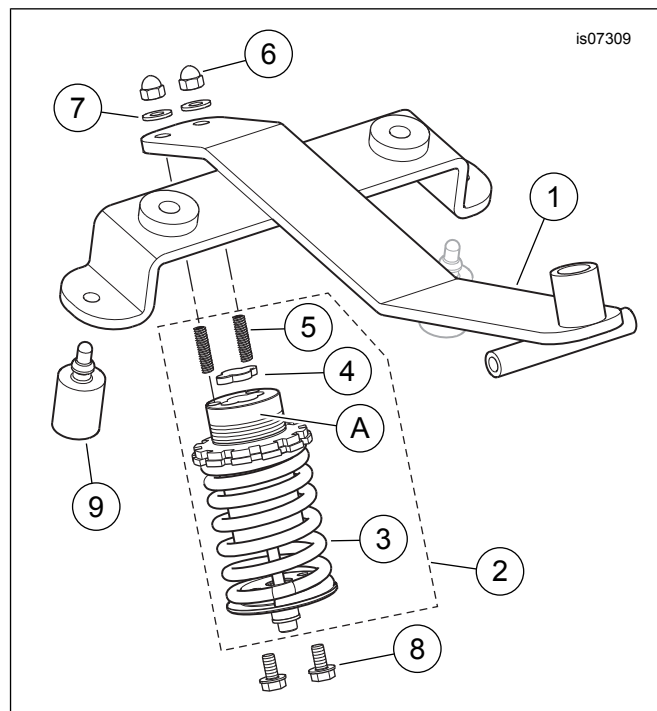

Figure 5. Service Parts, Police Seat Suspension Kit
See Figure 5 and Table 1.
1. See Figure 5. Place the seat spring (2) on the vehicle frame weldment. Align the holes on the bottom plate of the spring with the holes in the frame. Install two **new** screws (8) from the kit. Tighten the screws to 4.1–6.8 N·m (36–60 **in-lbs**).
5. See Figure 5. Install the seat onto the **new** seat bracket (1). Secure with the two flange nuts and one hex head bolt (Figure 3, Items 19 and 20) removed from the air suspension seat bracket. Tighten the flange nuts to 10.9–16.3 N·m (96–144 **in-lbs**). Tighten the bolt to 6.8–13.6 N·m (60–120 **in-lbs**).
6. Place the seat and bracket assembly on the motorcycle. Install the front pivot bolt (2) and acorn nut (3). Tighten to 5.4–9.5 N·m (48–84 in-lbs).
7. See Figure 5. Rotate the top of the seat spring (2) so the upper threaded studs (5) are offset to the rear of the vehicle.
8. Align the seat bracket with the studs and install the washers (7) and acorn nuts (6). Tighten to 6.8–9.5 N·m (60–84 in-lbs).
See Figure 5. Seat bracket bumpers (9) provide cushioning under certain riding conditions. If seat system is modified, ride comfort may be affected.
1. See Figure 5. Remove the rubber cap (4). Remove the studs (5).